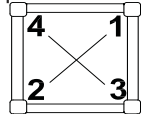

Fig. 5.1
- 3- Tighten all toggle bolts to 120 lb-ft (163 Nm) of torque. Use a cross pattern sequence when tightening (fig. 5.1).